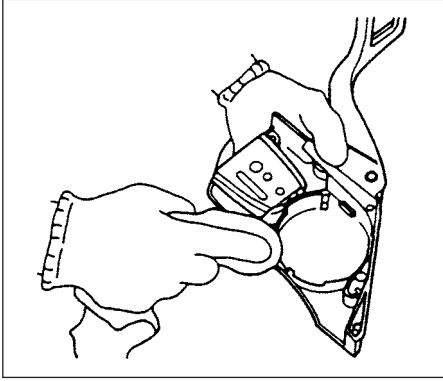

Fig.3-6
**Carter laterale (Fig. 3-6)**